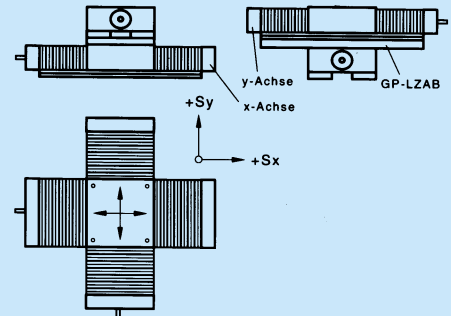

Fig. 4b
- **Assembly type KN** (Fig. 4b)